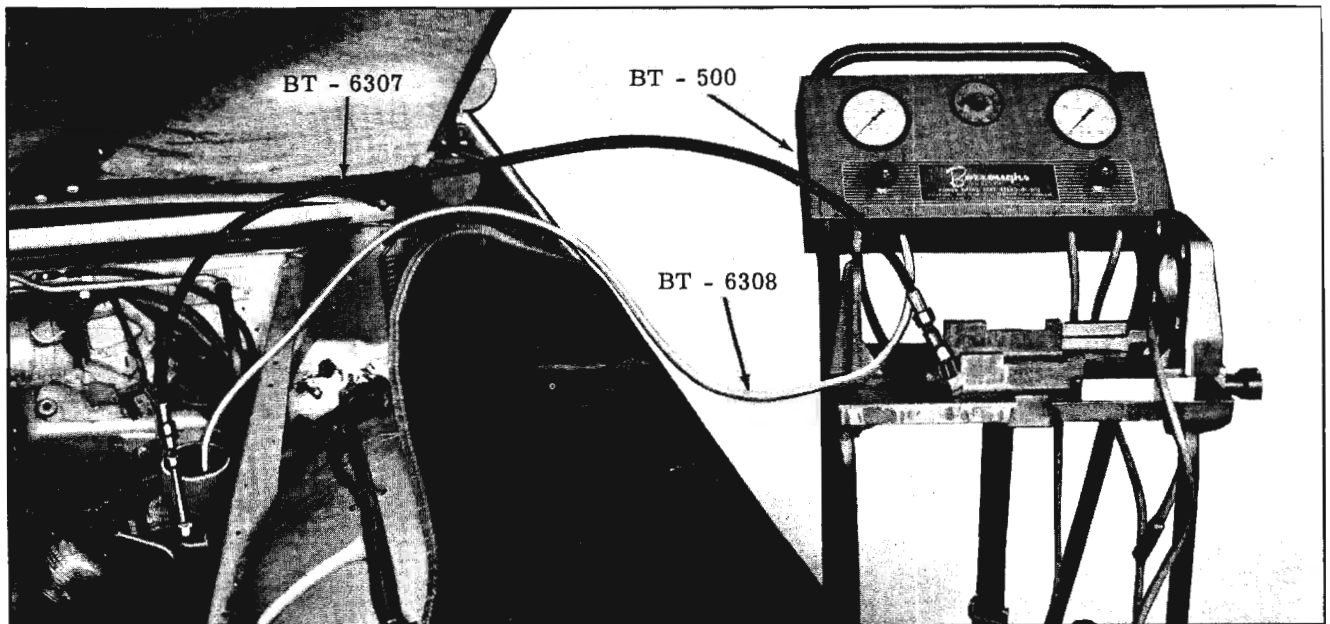

Fig. 7-135 Connecting BT-500 for Reaction Adjustment
1. Connect BT-500 tester as shown in Fig. 7-135.